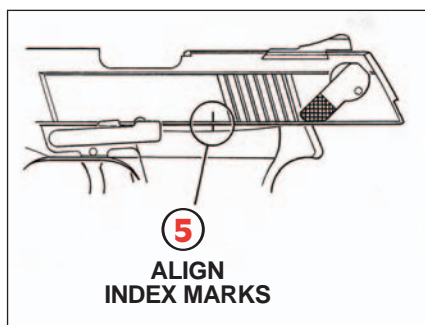
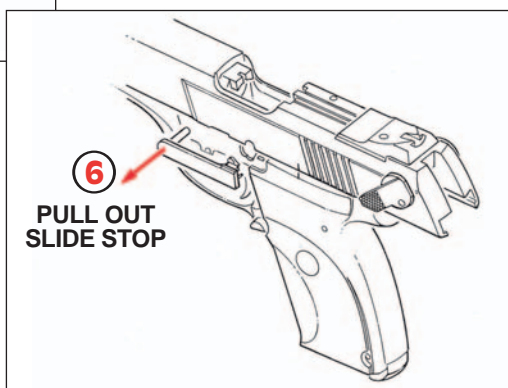

FIGURE 8
FIGURE 9
4. Remove fingers from ejection port. Grasp slide tightly. Now press down on slide stop and allow slide to move slowly forward until the vertical disassembly line on the frame is aligned with the vertical disassembly line on the slide. (See Figure 8, above.) Press in on right-hand end of slide stop and pull slide stop out of frame to the left until it is withdrawn completely out of the frame. (See Figure 9, above.)